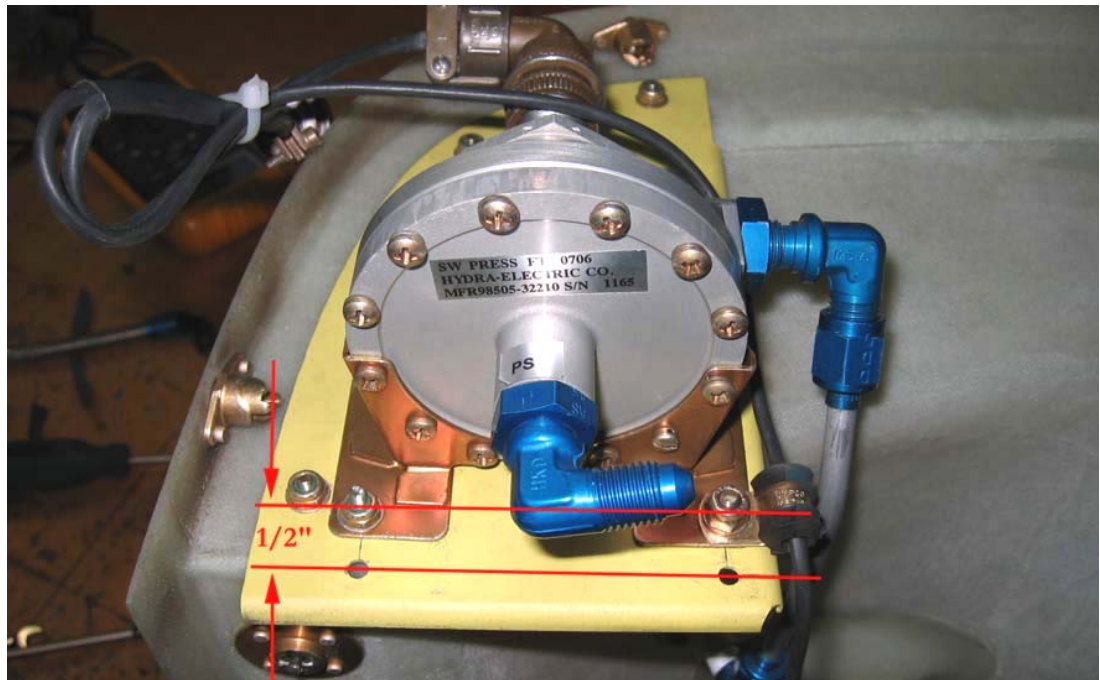

Figure 3 – Differential Pressure Switch Installed
- (d) Upon re-installation of the differential pressure switch, counter sink both outboard attachment screw holes and replace hardware with (2) MS35190-238 screws, (2) AN960-8 washers (under the nut) and (2) MS20365-832A locknuts (figures 3 & 4).
- (b) Install differential pressure switch onto the fiberglass duct assembly by reinstalling the four attachment screws to the fiberglass duct assembly and the aluminum tubing to the pressure port of the differential pressure switch (figure 3). Connect all electrical cannon plugs previously removed.